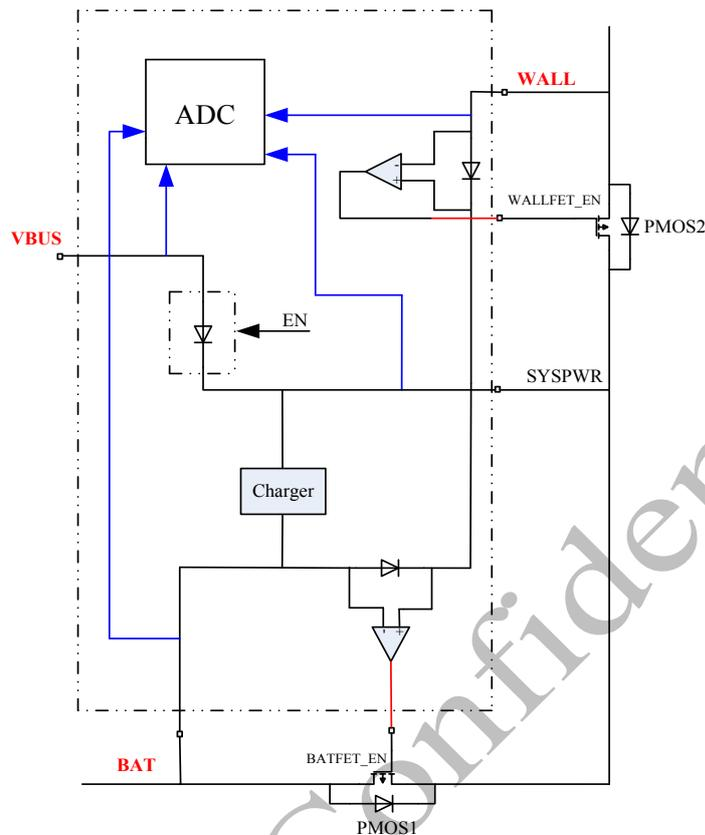

Figure 7-4 APDS Module Diagram
ATC2603C APDS (Adaptive Power Distribute System) block diagram (for $\text{CHIP_VER}(0x\text{DC})=0x0$) is shown in Figure 7-4 above. SYSPWR is a public power supply node for all the DC-DCs and LDOs. PMU gets power from BAT, VBUS and WALL and then supplies to the public node SYSPWR through a diode respectively in the IC. To prevent current from flowing from VBUS to SYSPWR in OTG application, an enable control pin (EN) is applied to the diode between VBUS and SYSPWR. When this diode is disabled, the path from BUS to SYSPWR will be cut off completely. PMU needs to supply high power, in order to reduce internal thermal dissipation, two external MOSFET PMOS1 and PMOS2 are applied to bypass big current, see in Figure 7-4 above.